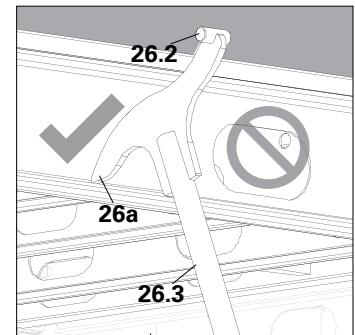
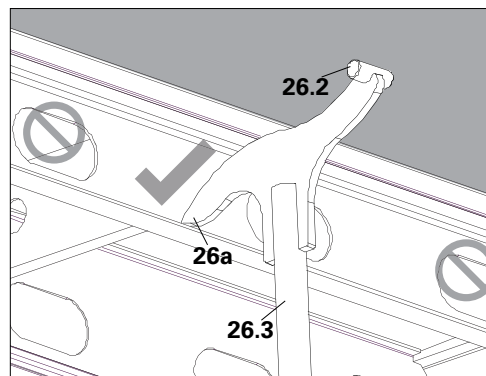

Fig. A11.09a
Fig. A11.10a
1. While using the stripping tool for lowering the panels, ensure that the front face (**26a**) of head is placed onto the bottom of the edge rail A or edge rail B profile and the pivot rod (**26.2**) is pressed to the slab surface. (Fig. A11.09a + Fig. A11.10a)
2. Apply upward force using the handle (**26.3**) of stripping tool AD (**26**) such that pivot rod (**26.2**) is pressed against the slab surface. (Fig. A11.09a + Fig. A11.10a)
The stripping tool AD (**26**) should always be used on the bottom of edge rail A or edge rail B profile of the panel. (Fig. A11.09a)